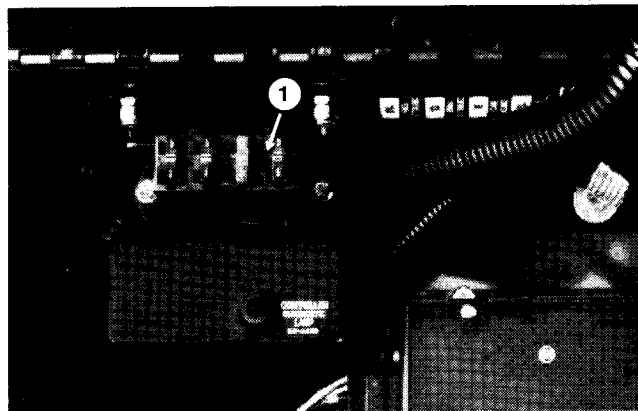

Figure 38
The electrical system is protected by four (4) fuses located under the control panel to the operator's right (Fig. 38).